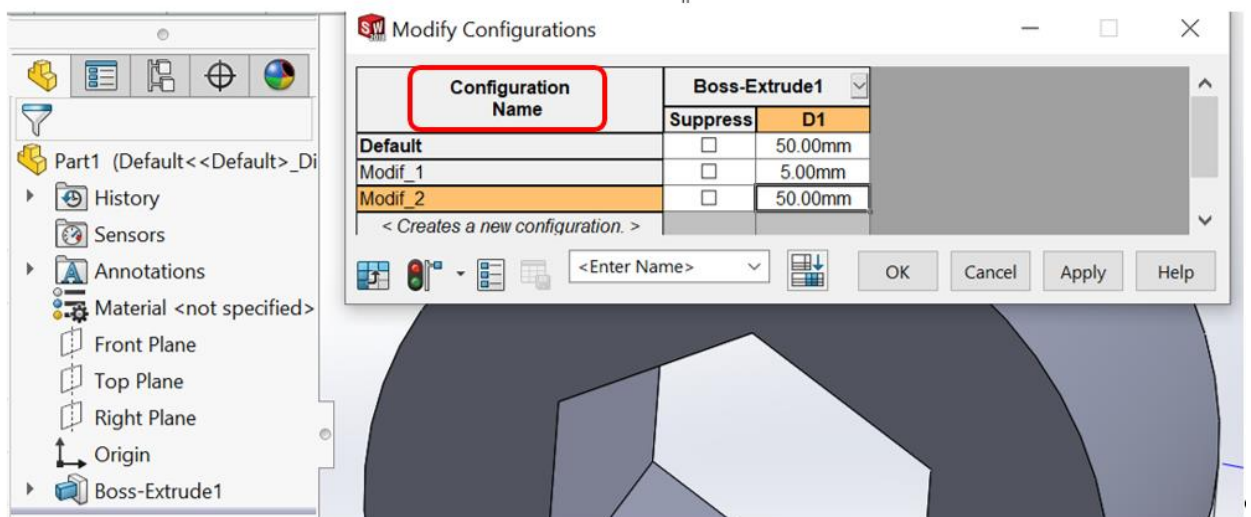

Figure 17 – Entering a numeric value for the new configuration
- editing features and dimensions (Fig. 17);
- editing and suppressing features or certain properties that occur in defined configurations ratios (Fig. 17);